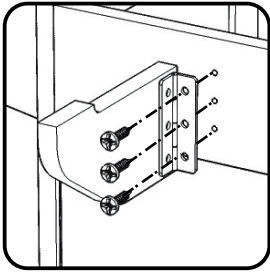

Figure 5
Attach Leaf Supports (U) and (V) to unit with Wood Screws for Leaf Support. (See Figure 5)